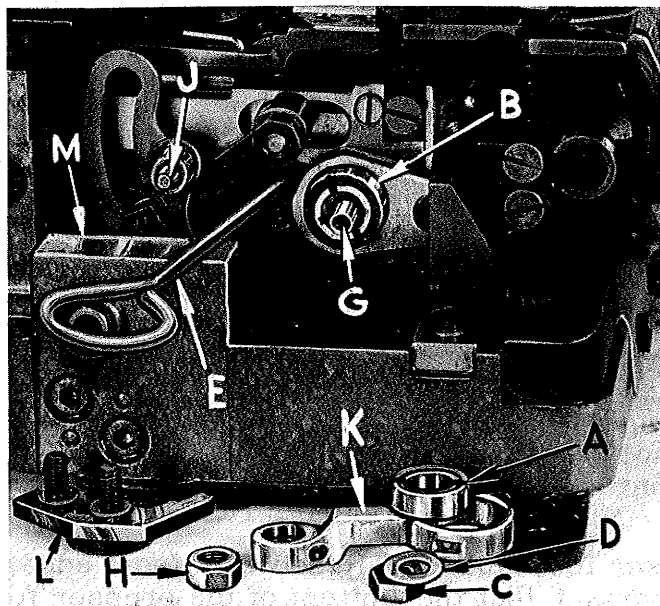

Fig. 15
Length of stitch is determined by the combination of feed eccentrics used. Outer (left) eccentric (A, Fig. 15) actuates differential (front) feed dog; while the inner (right) eccentric (B) actuates the main (rear) feed dog.